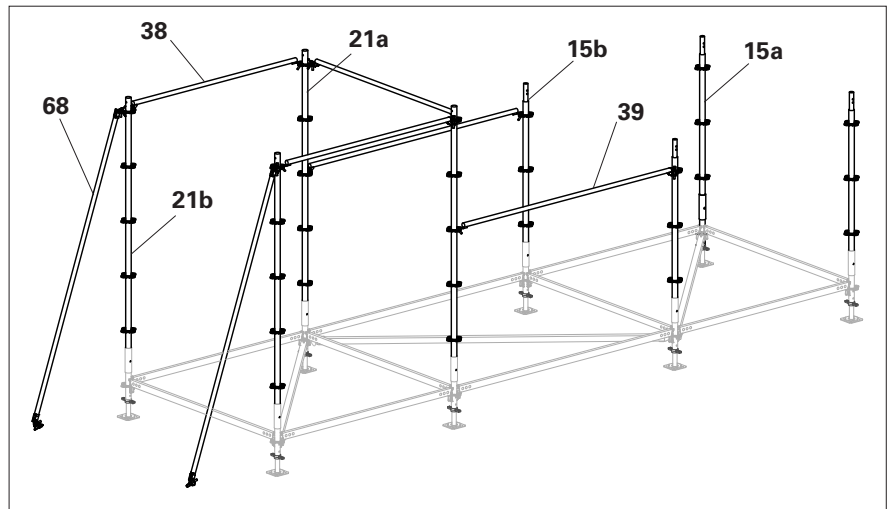

Fig. C1.02
6. Connect 2 x Node Brace UBK-2 250/150 (**68**) to their respective standards at 2.5m high, then insert 2x Top Standard UVH-2 250 (**21b**) into base standards. (Fig. C1.02)